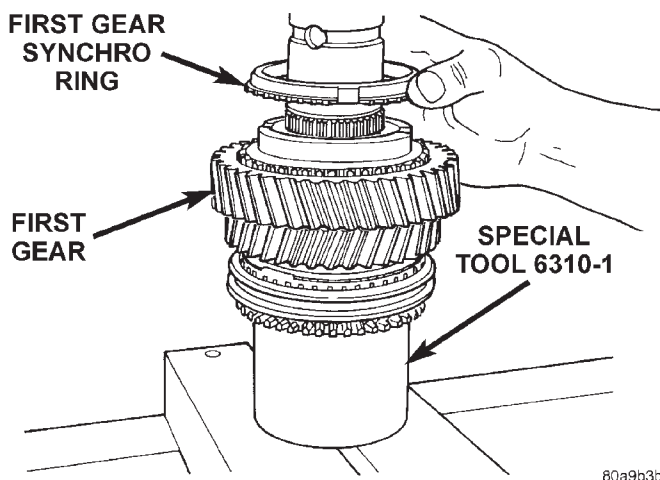

Fig. 63 First Gear Synchro Ring Installation
(16) Install first gear synchro ring (Fig. 63).
(17) Assemble 1-2 synchro hub sleeve, springs, struts and detent balls.